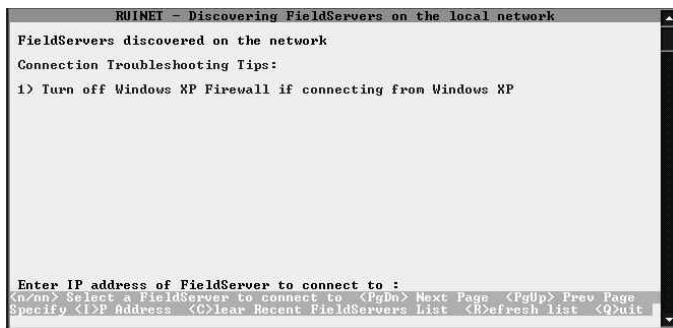

Figure 9: RUINET PT-Link II Specify IP Address
2.) If RUINET is in the desktop directory (if it isn't, locate its directory), *double-click* on RUINET, and the RUINET program should run. Initially, you might see the screen below (**Figure 9**). Type  for Specify IP Address and the message "Enter IP Address of the Field Server to Connect to" will appear on the screen.